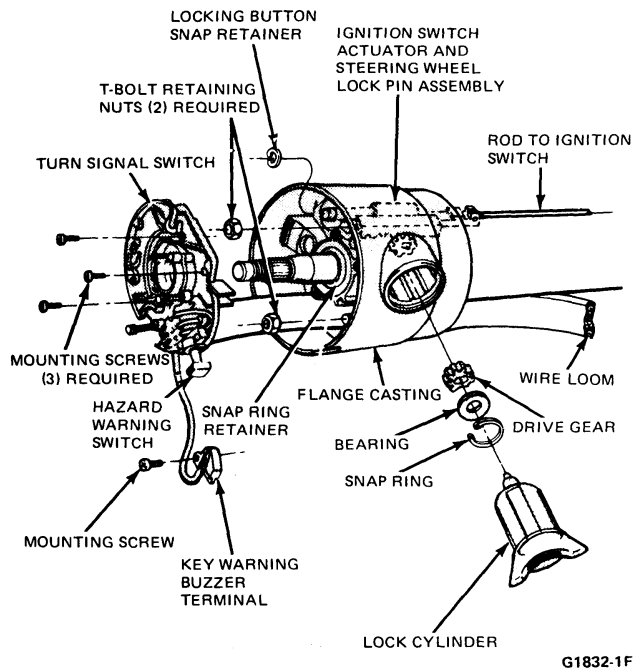

FIG. 8 Fixed Column Mechanism
7. Remove the ignition lock actuator rod and steering wheel lock pin assembly (Fig. 8).